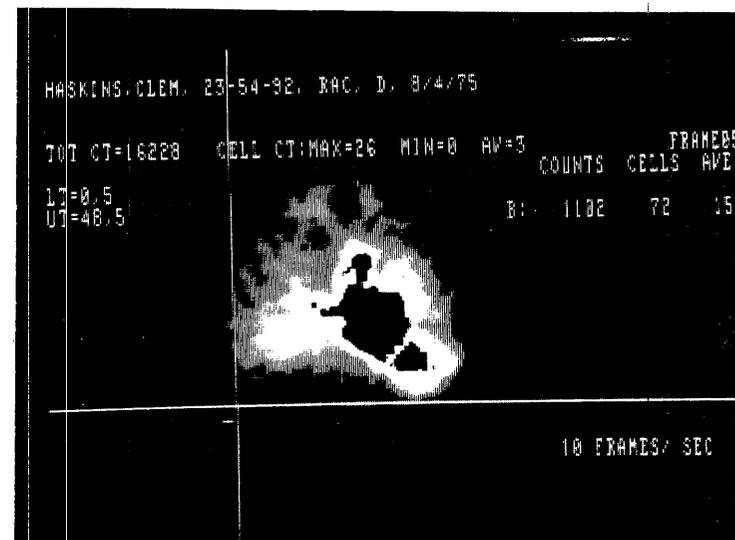

FIGURE 4. ROI defined over end-systole left ventricle
- 5) re-enter IR and outline the end-systole left ventricle. (Figure 4)